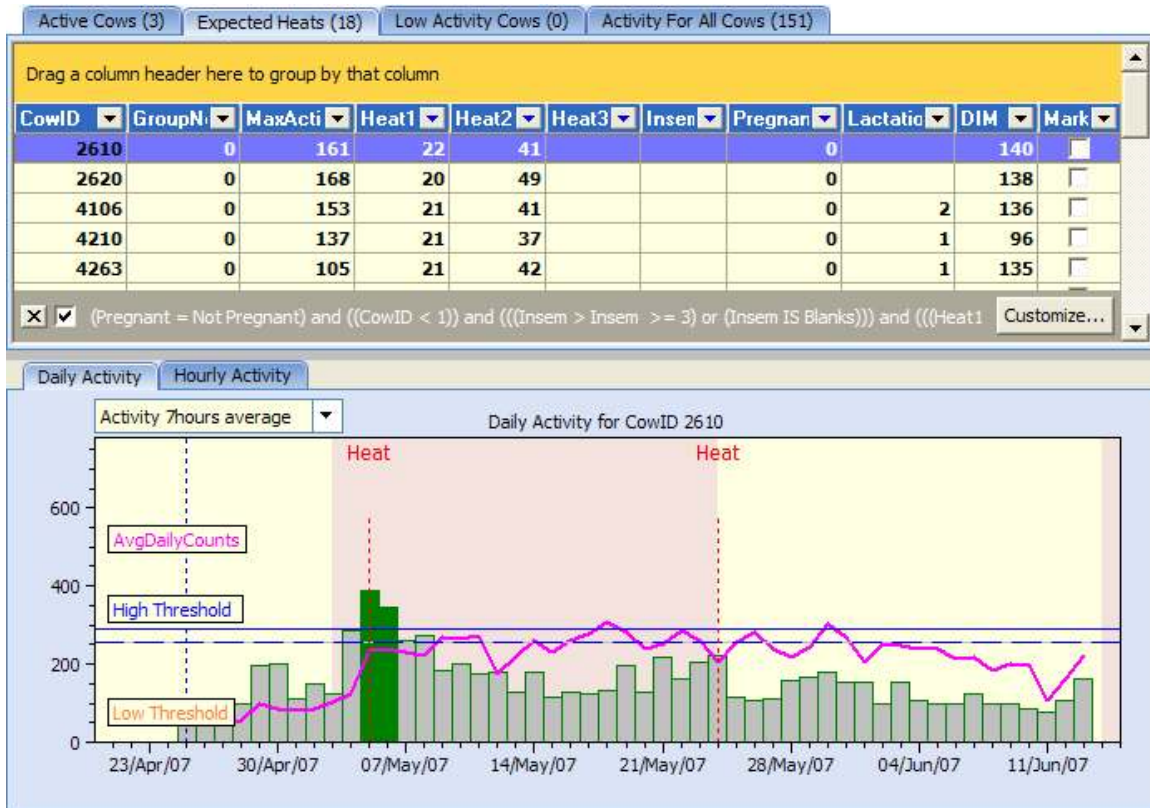

Figure 9 Expected Heats Tab.
Click on the 'Expected Heats (18)' tab on the top of Figure 9 to move into the Expected Heats tab. The number (18) denotes that 18 cows are due to come into heat.
Note! You should check the Expected Heats tab each day. There may be CowID's in here that are displaying a significant increase in activity levels, but not enough to break the 'Lower Threshold' line (dashed blue line in Figure 9) or the High Threshold line (solid blue line in Figure 9), that you could call as being in heat yourself. This is similar to the 'Tail Painting' method of heat detection. The graph is explained in detail in section 14.3.6.